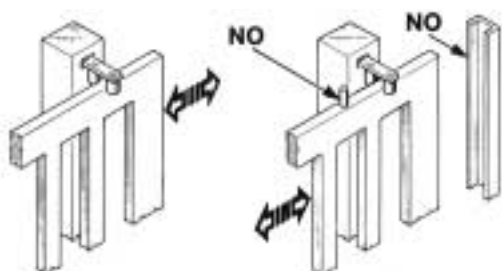

Fig. 3
Gate columns shall have anti-derailment guides on their top (Fig. 3), to avoid the unintentional gate release.
**N.B.:** Eliminate those mechanical stops of the kind described by figure 3. No mechanical stop shall be on top of the gate, since mechanical stops are not safe enough.